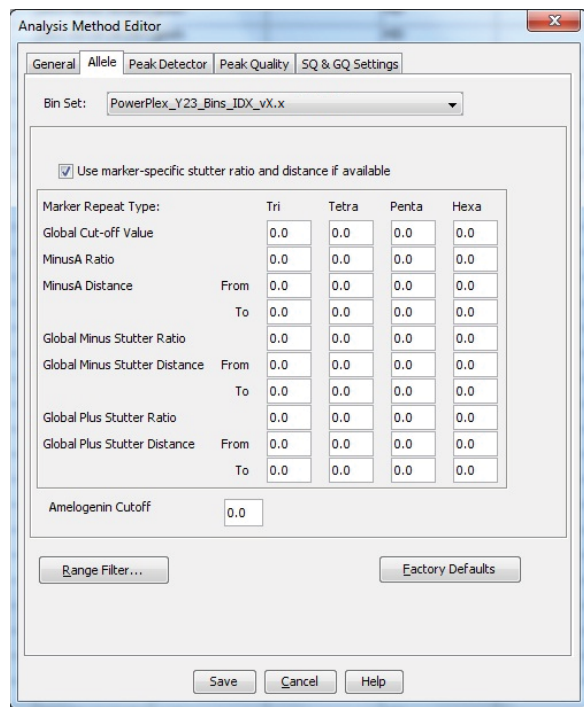

Figure 14. The GeneMapper® ID-X 'Allele' tab.
6. Select the 'Allele' tab (Figure 14).